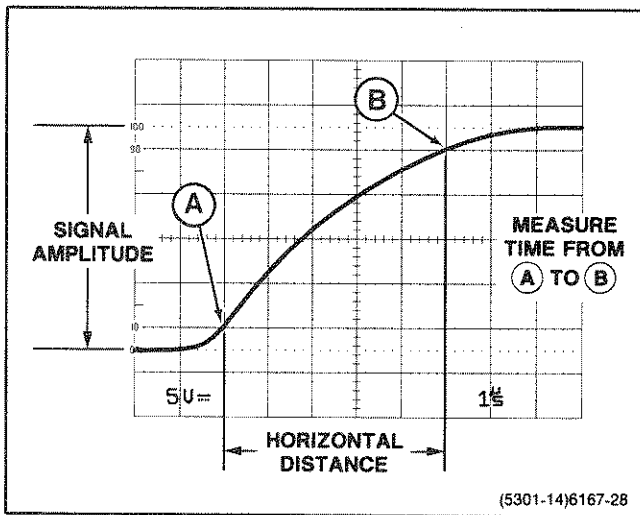

Figure 6-6. Rise time.
5. Adjust vertical positioning so that the zero reference of the waveform touches the 0% graticule line and the top of the waveform touches the 100% graticule line (see Figure 6-6).
7. Horizontally position the display so the 10% point on the waveform intersects the second vertical graticule line (see Figure 6-6, point A).
EXAMPLE: The horizontal distance between the 10% and 90% points is 5 divisions (see Figure 6-6), and the SEC/DIV switch is set to 1  $\mu$ s. A magnification factor of 1 is used.